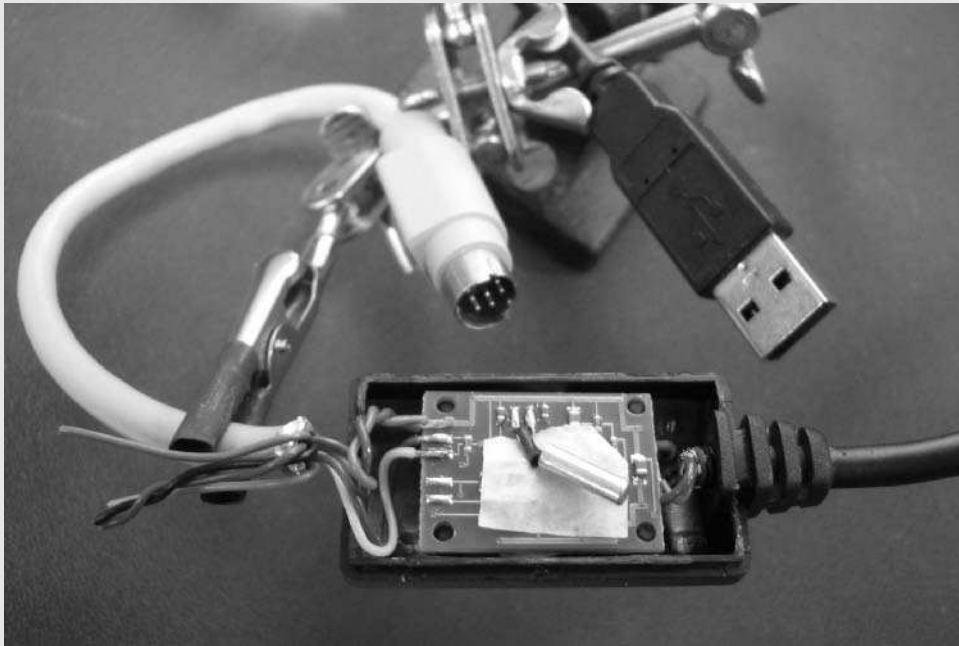

FIGURE 15-15: Soldering on a Mini-DIN 8-pin cable
- Note the position of those wires and unsolder the cable bundle from the board. Then take a Mini-DIN cable that you've figured out which wires are GND, TXD, and RXD for Roomba and solder them onto the board in the correct position. Figure 15-15 shows the finished task.